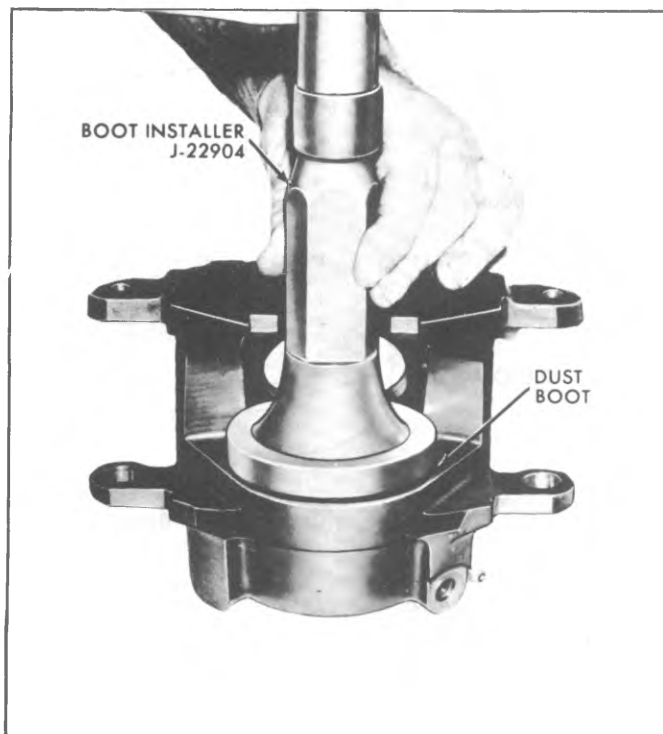

Fig. 5-37--Seating Boot
1. Lubricate the bore in the caliper and the new piston seal with clean brake fluid. Position the seal in the caliper bore groove. Lubricate the piston with clean brake fluid and assemble a new boot into the groove in the piston so that the fold faces the open end of the piston. Insert the piston into the caliper bore, using care not to unseat the seal and force down to the bottom in the bore. This will require a force of 50 to 100 pounds. Position the outside diameter of the boot in the caliper counterbore and seat with Tool J-22904 (fig. 5-37).